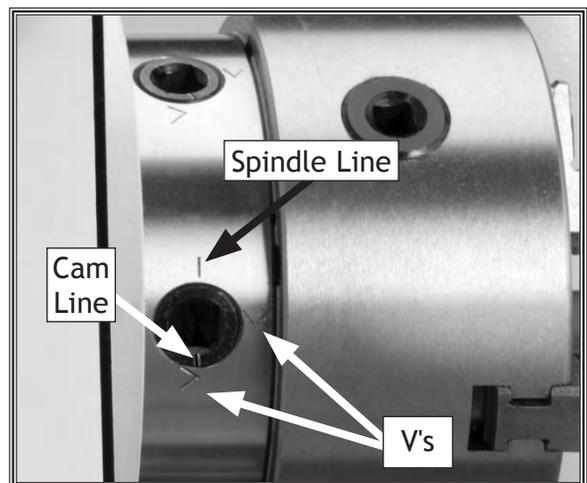

Figure 24. Cam lines aligned to spindle line.
The chucks and faceplate have a D-5 Camlock mount. Please note that there are lines stamped into the cam and on the chuck body (**Figure 24**). A chuck key is used to turn the locking cams.
3. Turn a cam with the chuck key until the cam line aligns with the spindle line mark shown in **Figure 24**.